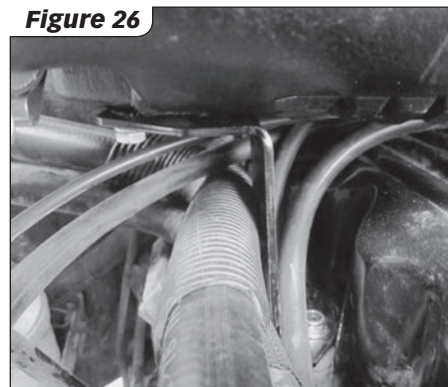

Figure 26
9. Check heater hose clearance to the Techni-Cooler brackets, cover with corrugated loom to protect hose from the sheet metal edge. **See Figure 26**